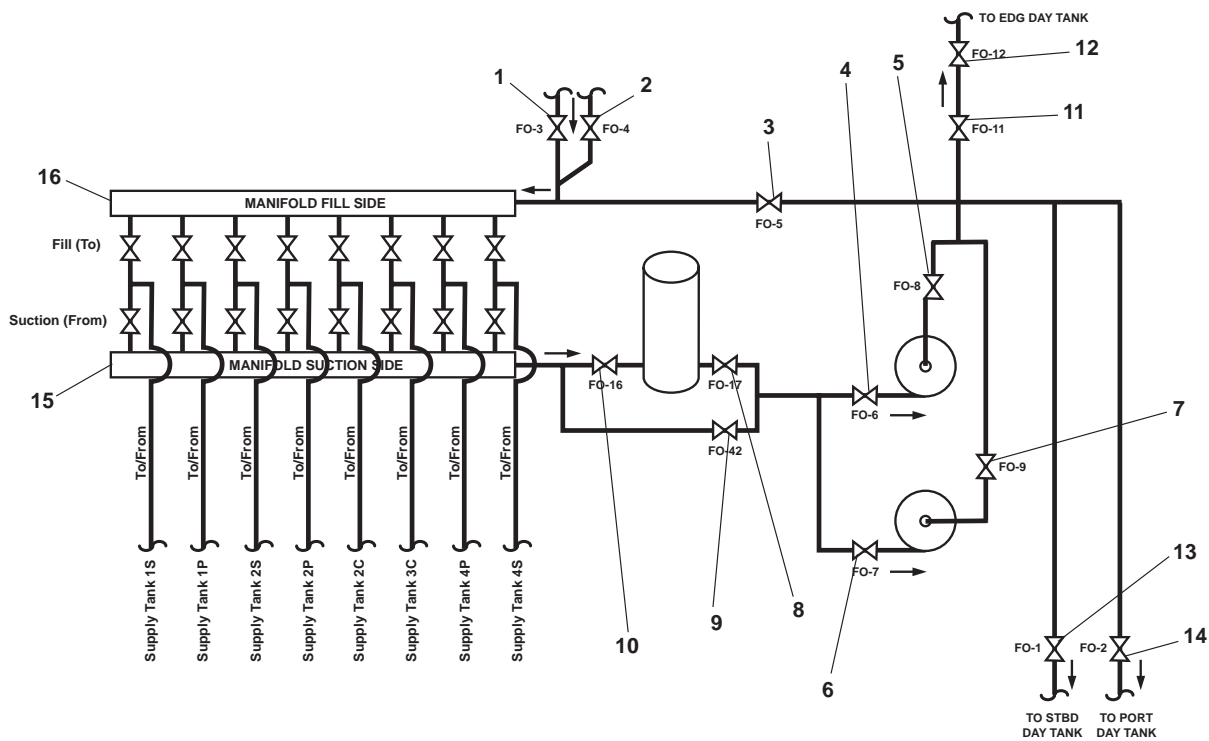

Figure 3. Fuel Oil Valve Locations
- a. F.O-3, DK. FILL CONN (figure 3, item 1)
- b. FO-4, DK. FILL CONN (figure 3, item 2)
- c. FO-5, F.O.DAY TK EMERG FILL (figure 3, item 3)
- d. FO-6, C.O.V. - F.O. XFER PMP N0.1 SUCTION (figure 3, item 4)
- e. FO-8, C.O.V. - F.O. XFER PMP No.1 DISCHARGE (figure 3, item 5)
- f. FO-7, C.O.V. - F.O. XFER PMP No.2 SUCTION (figure 3, item 6)
- g. FO-9, C.O.V.- F.O. XFER PMP No.2 DISCHARGE (figure 3, item 7)
- h. FO-17, F.O. FLTR / WATER SEP OUTLET. COV (figure 3, item 8)
- i. FO-42, F.O. FLTR / WATER SEP BYPASS COV (figure 3, item 9)
- j. FO-16, F.O. FLTR / WATER SEP INLET. COV (figure 3, item 10)
- k. FO-11, F.O. TO E.D.G. DAY TK (figure 3, item 11)
- l. FO-12, E.D.G. DAY TK FILL (figure 3, item 12)
- m. FO-1, F.O. DAY TK. FILL (figure 3, item 13)
- n. FO-2, F.O. DAY TK. FILL (figure 3, item 14)
- o. All valves on the suction side of the fuel oil manifold (figure 3, item 15)
- p. All valves on the fill side of the fuel oil manifold (figure 3, item 16)